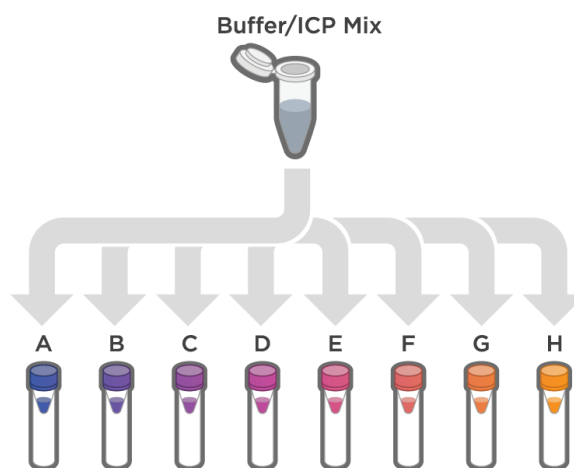

Figure 17: Distributing ICP/Buffer Mix into GeoMx Hyb Code tubes
2. Add **84 μ L** of **ICP/Buffer Mix** to each tube of **GeoMx Hyb Code** to be used (see Figure 17).